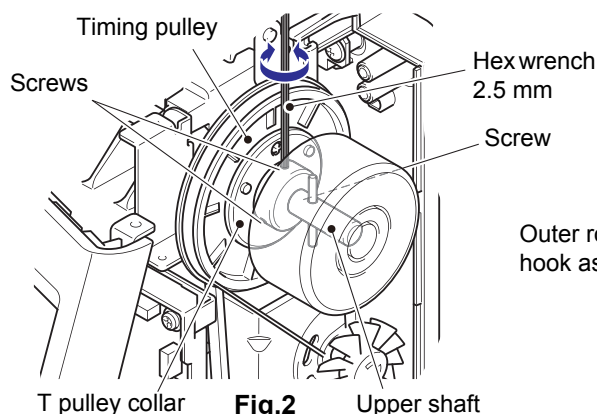

Fig.2
8. Loosen the 3 screws of the T pulley collar. (Fig.2)
- Be sure to tighten the screw of the needle thread block slightly to the left when it is seen from the front. (Fig.2)
5. Raise the presser foot lever. (Fig.2)